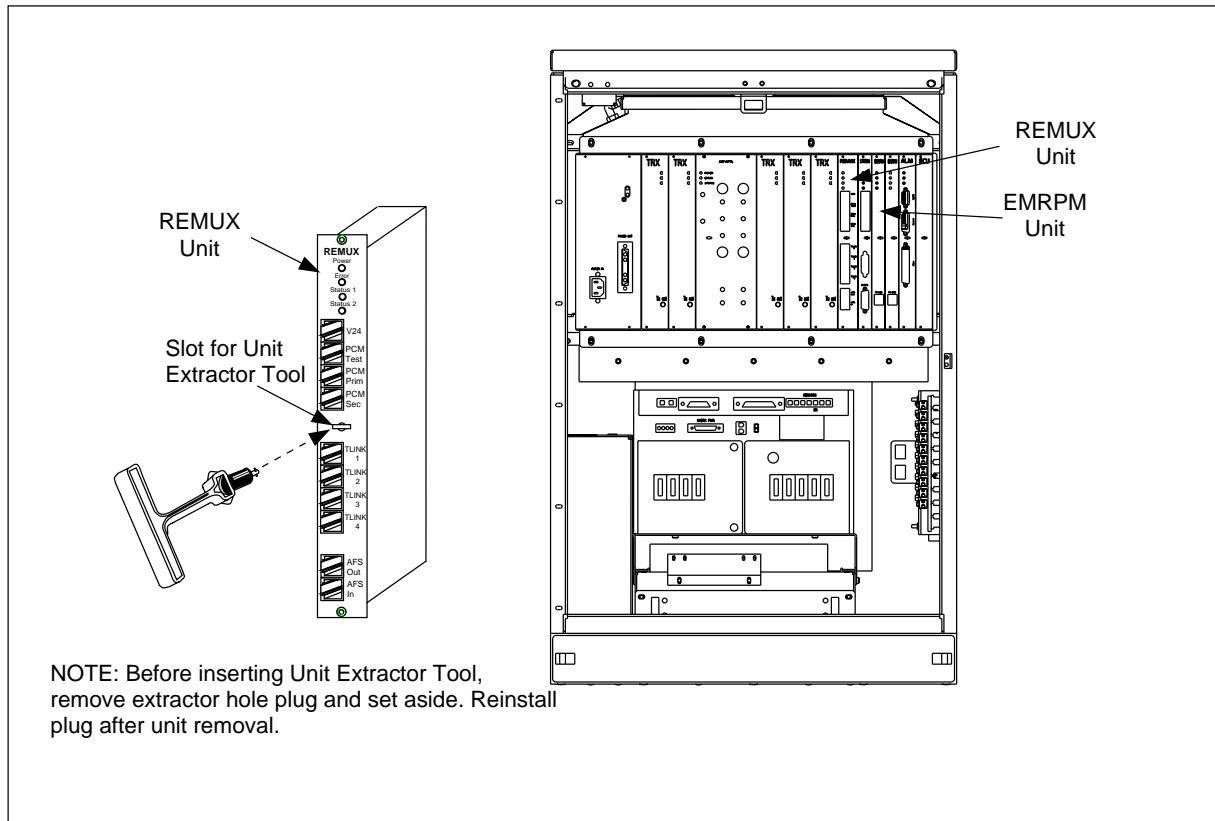

Figure 4-16. Cabinet Units for Switch Settings (Example with a Main Cabinet)
The units are shown in Figure 4-16 on page 4-34.
3. Remove the REMUX unit from the cabinet using the extractor tool as shown in Figure 4-16 on page 4-34. Save the extractor hole plug and replace plug after installing the REMUX unit.